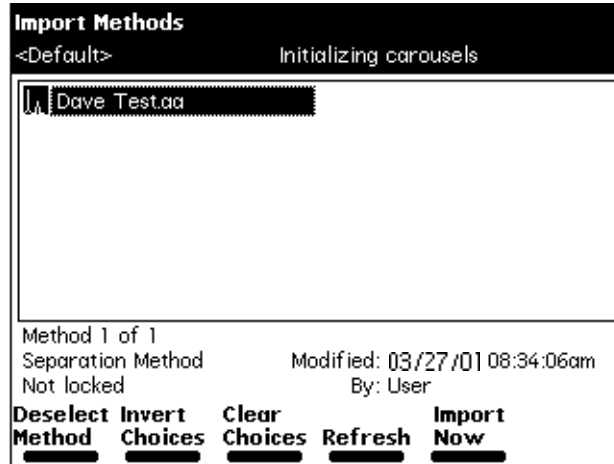

Figure 6-22 Import Methods Screen
3. Press the **Import Methods** screen key. The Import Methods screen appears, displaying a list of methods stored on the disk (Figure 6-22). To update the list, press the **Refresh** screen key.